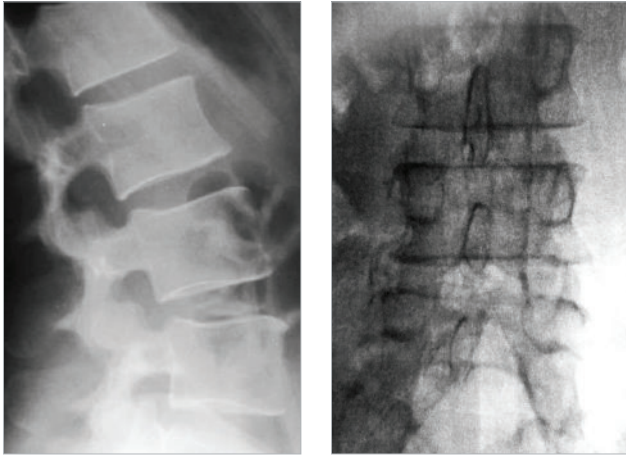

Figure 3
- True lateral orientation is noted by observing a sharp view of the endplates at the operative level and when the neural foramina align perfectly on the lateral radiograph/fluoro (Figure 3).